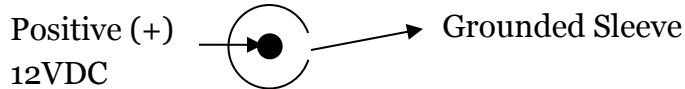

Figure 1 DC power plug
- Center positive voltage, sleeve ground, see Figure 1.